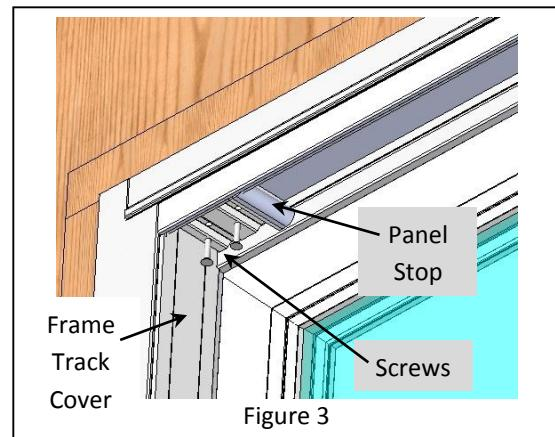

Figure 3
- 2) Before the Fixed Panel can be removed, the Operating Panel must be taken out. To remove the Operating Panel, begin by removing the screws attaching the Panel Stop to the head of the door as shown (Fig. 3). Remove the Panel Stop and set aside. Using a thin flat-tip screwdriver, pry the interior frame track cover from the jamb and remove it.